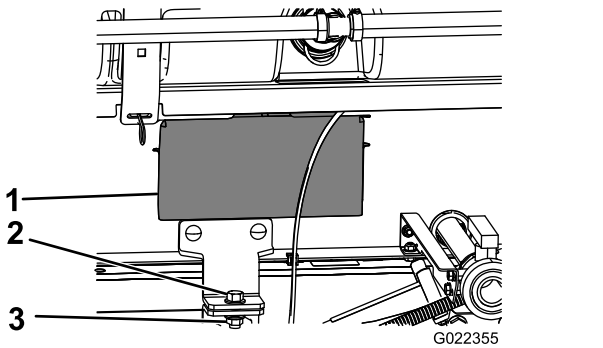

Figure 34
5. Remove the access panels at both sides of the skid frame (Figure 34).
each side of the machine with a bolt (1/2 x 1-1/2 inches) and a locknut (1/2 inch) as shown in Figure 34.